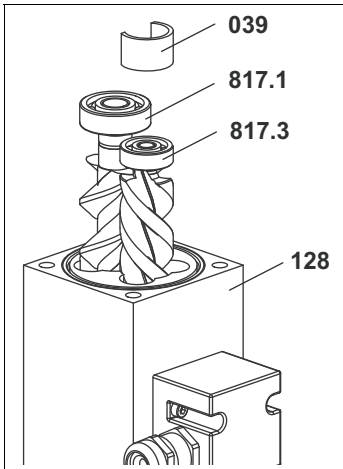

Fig. 2
2. Pull the screw set with the ball bearings and distance sleeve **039** out of the measuring housing **128**, paying attention to the configuration for later assembly, see Fig. 2, page 26. Remove the distance sleeve.